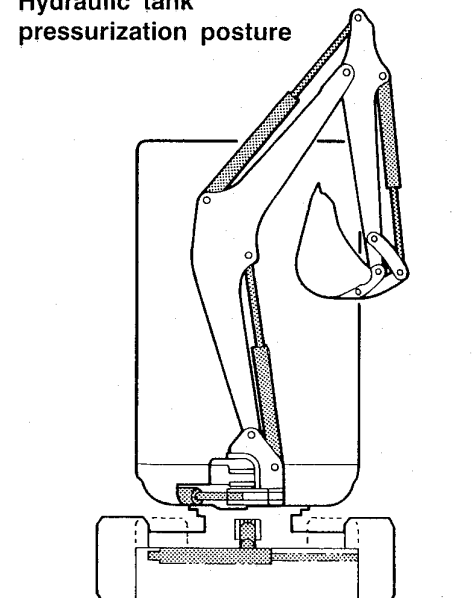

Figure 4
• Pressurizing the Hydraulic Tank (Refer to Figure 4)
The excavator should be as shown in Figure 4 when pressurizing the hydraulic tank.